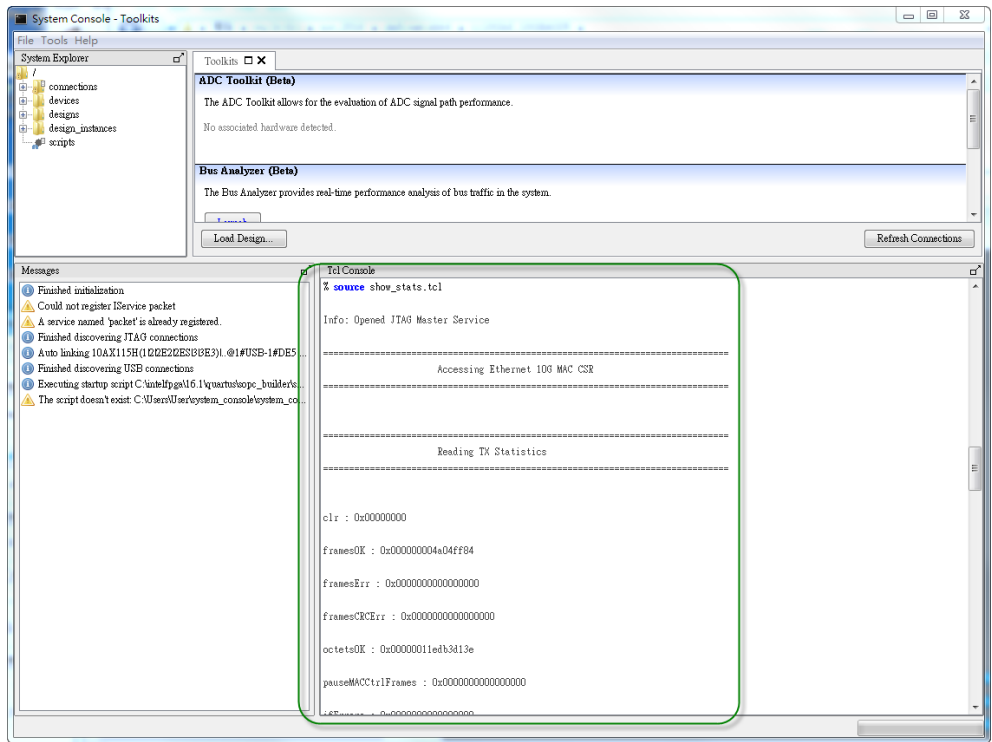

Figure 9-14 Report for show_stats.tcl
8. In the System Console windows, input the following command to display the values of the statistics counters, as shown in **Figure 9-14**.